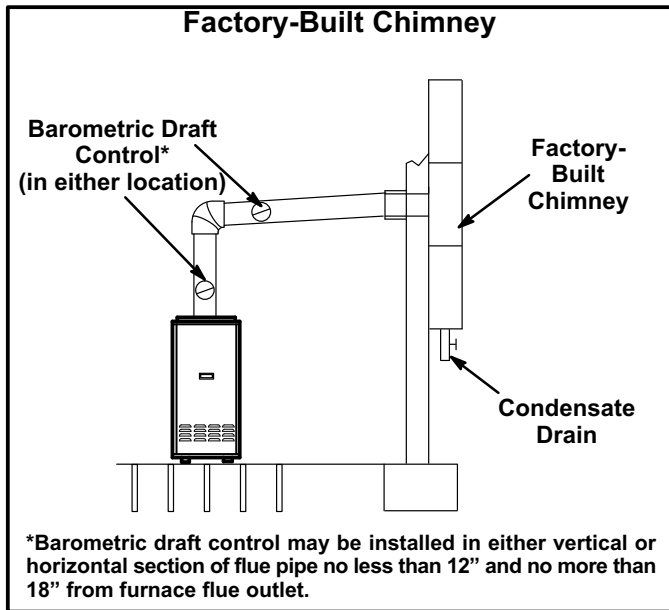

Figure 9
- 15 - All vent pipe run through unconditioned areas or outside shall be constructed of factory-built chimney sections. See figure 9.